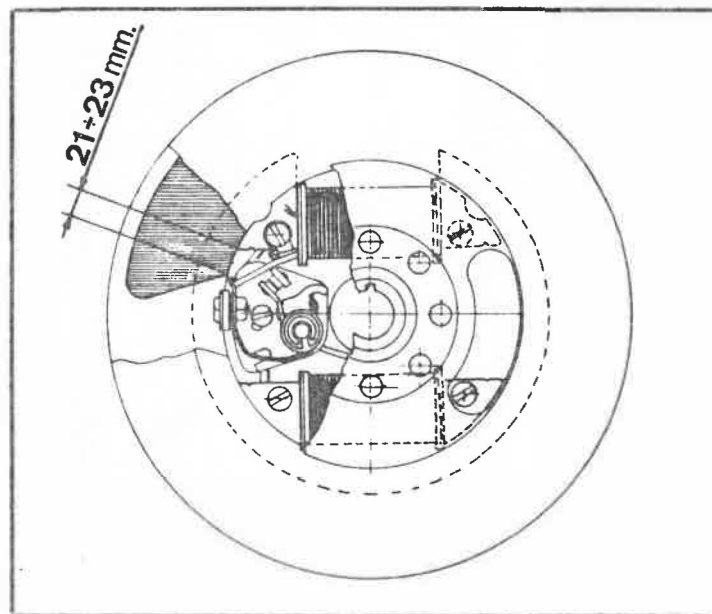

Fig. 67
2) During partial overhauls and adjustments (change of contact breaker), if it is not possible to have a test bench and to control the utility, it is necessary to ensure that the contacts opening begins when the end of the H.T. coil is 21 - 23 mm retarded (see fig. 67) and 7 - 8 mm advanced from the polar expansion. The contacts opening must be 0.35 - 0.40 mm.